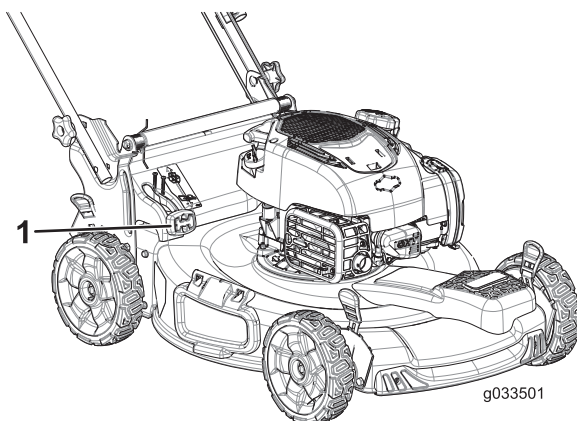

Figure 23
- For bagging the grass and leaf clippings, press the button on the bag-on-demand lever, and move the lever forward until the button on the lever pops up (Figure 23).